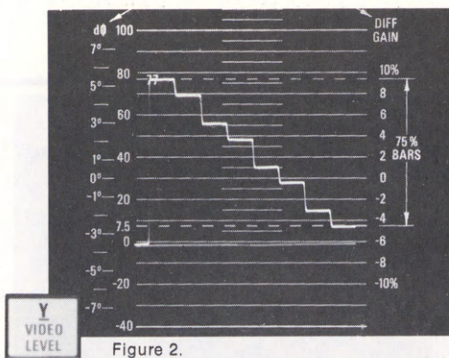
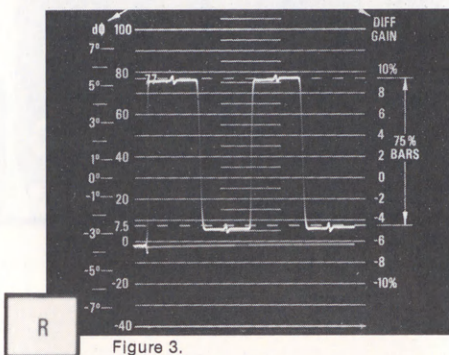
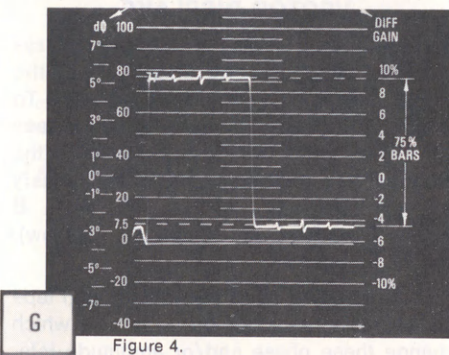

Figure 2.
Figure 3.
Figure 4.
The 520A provides a luminance channel which permits the separation and display of the luminance (Y) component from the composite color signal (fig. 2). The Y component can also be combined with the output of the chrominance demodulators for R, G, and B displays at a line rate (fig. 3, 4, 5). Amplitude measurements of color signal components can be made with an accuracy of 3%.
75% amplitude EIA Color Bar Signal. Push-buttons select line-sweep displays of Luminance (fig 2), decoded Red (fig 3), decoded Green (fig 4), and decoded Blue (fig 5).